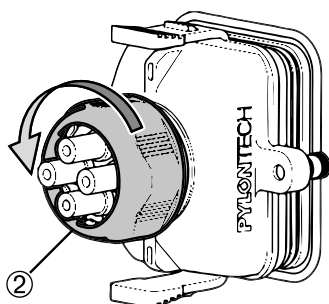

Fig. 2.10 - plastic nut
- Unscrew the plastic nut from the cover (2, Fig. 2.10);
- screw it back the plastic nut from the cover (2, Fig. 2.10);